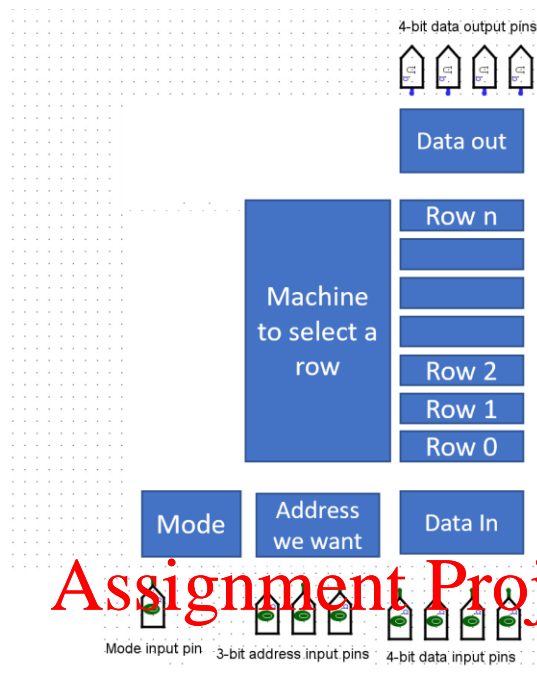

Figure 1: High-level view of RAM
- Task: Build the circuit (blue boxes) of figure 1.
**NOTE**: Your final circuit does not need to look exactly like figure 1. However, the input and output pins must look like figure 1.